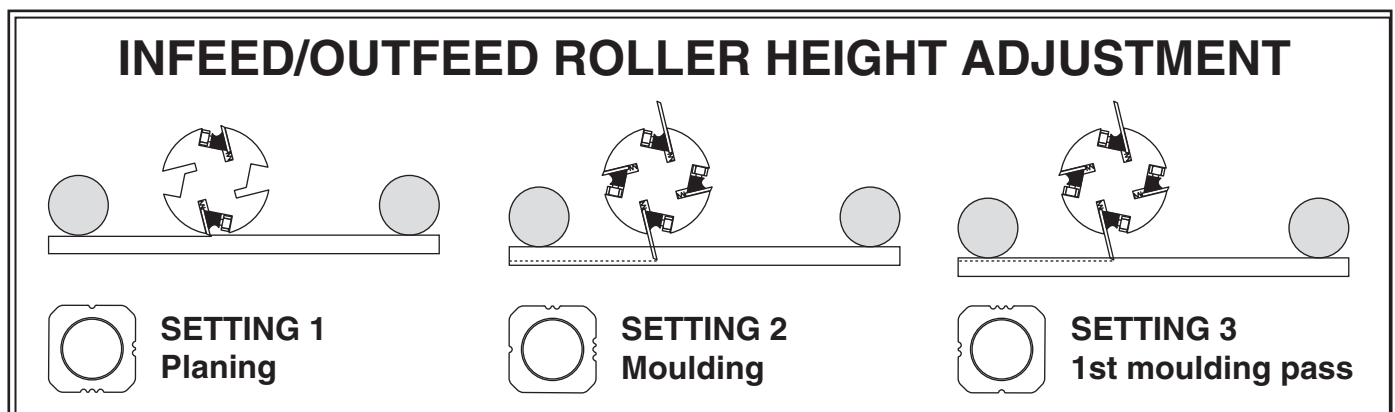

Figure 17. Roller height adjuster settings.
- Use the special wrench provided to turn the roller height adjuster to one of the three preset settings shown in **Figure 17**.